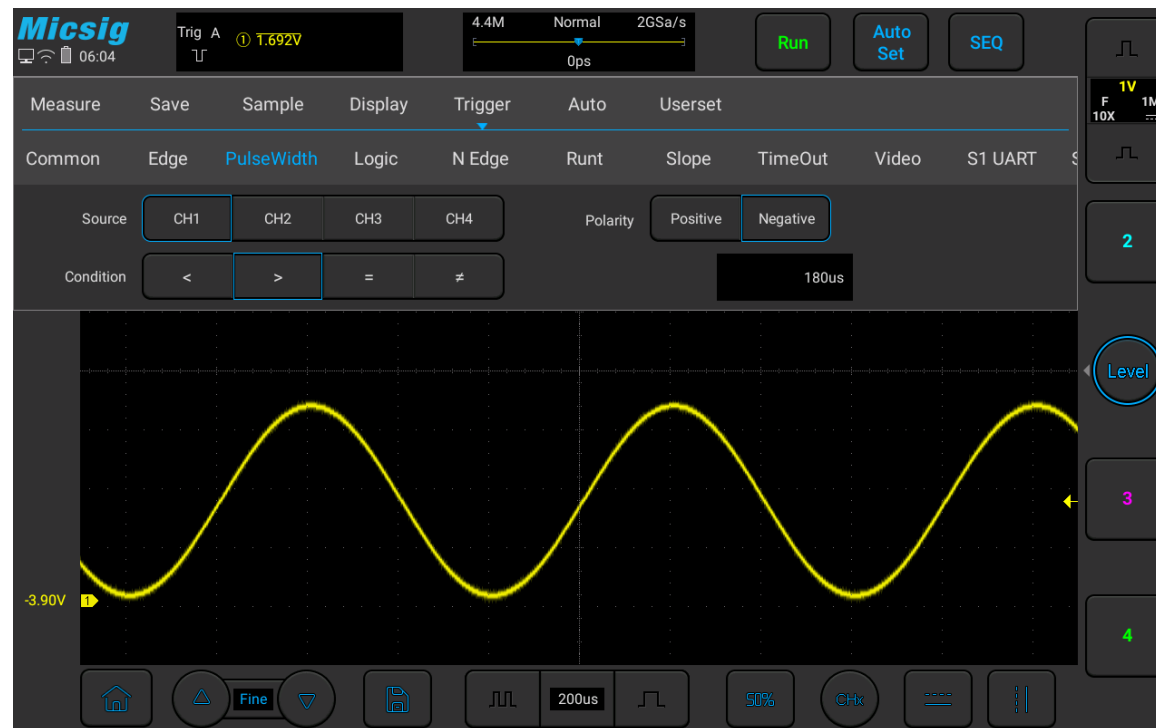

Figure 5-15 Negative Polarity Pulse Level Flip
lower than current trigger level (CH1 negative pulse indication icon $\neg$ ① 1.00V). When triggered on positive polarity pulse, if the restrictions are true, the trigger will happen on the high-to-low transition of the pulse; when triggered on negative polarity pulse, if the restrictions are true, the trigger will happen on the low-to-high transition. (Figure 5-15 Negative Pulse Level Flip)